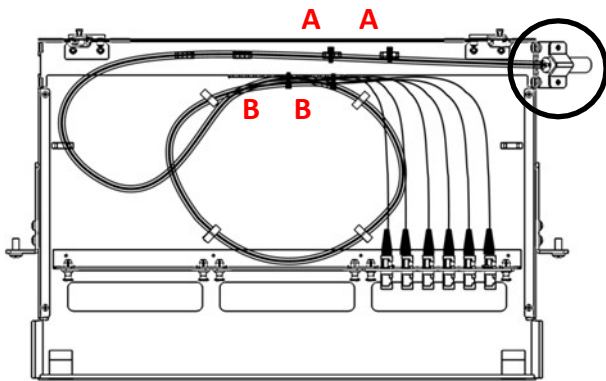

Fig. 5
3. Place the Cable Clamp Top from the Standard Sub-Assembly Kit and attach it over the cable to the cable bracket using the two ½" long Phillips head screws (Fig. 5 black circle).